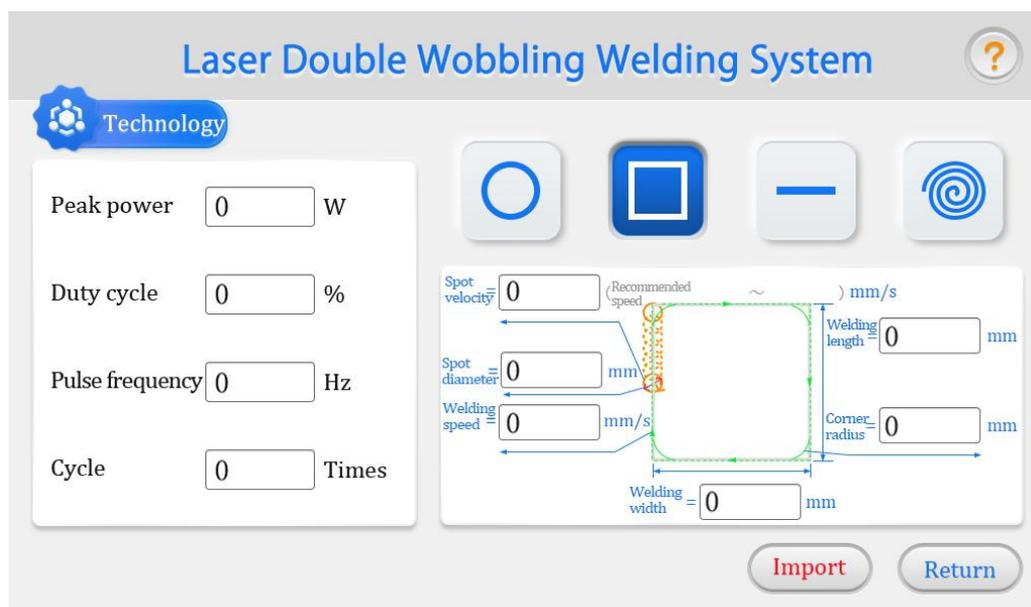

Figure 4.2 Process Page of Laser Swing Welding System
- ① [Spot speed]: As shown in Figure 4.2, the speed at which the focused spot moves along the yellow track. The yellow circle is called "light spot" below.
- ② [Spot diameter]: the diameter of the yellow circle.
- ③ [Welding speed]: the speed at which the "light spot" moves along the welding trajectory (green). Take [rectangle] as an example, the speed of the "spot" moving around the rectangle. According to the dynamic change of welding diameter and the actual welding effect, it should not be too large.
- ④ Speed: the speed at which the focused light spot moves around the blue spiral track. Spiral-specific parameters.
- ⑤ [Welding Diameter, Welding Length, Welding Width, Corner Radius, Inner Diameter and Outer Diameter]: Geometric parameters of welding trajectory. Take [I-shaped] as an example. In the actual welding effect, the actual weld = welding diameter + spot diameter.